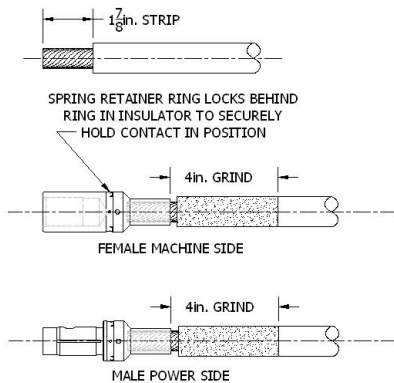

Figure 3
- Crimp or solder conductor to contact. See Figure 3 below for tools. Wrap one or two layers of neoprene tape over cable jacket to make positive seal when cable clamp is tightened around insulator sleeve.